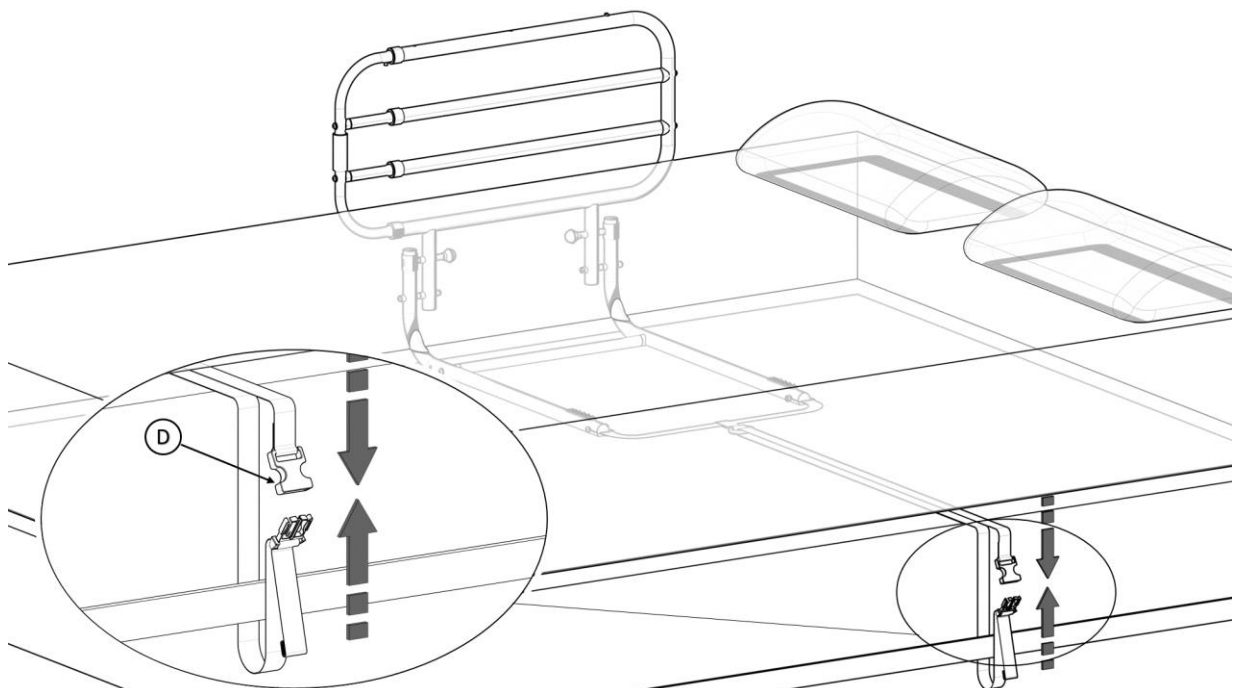

FIGURE 5
5. Loop **SAFETY STRAP (D)** around bed frame, re-buckle and tighten **SAFETY STRAP** to secure Bedrail product against side of the mattress as shown in *FIGURE 5*.